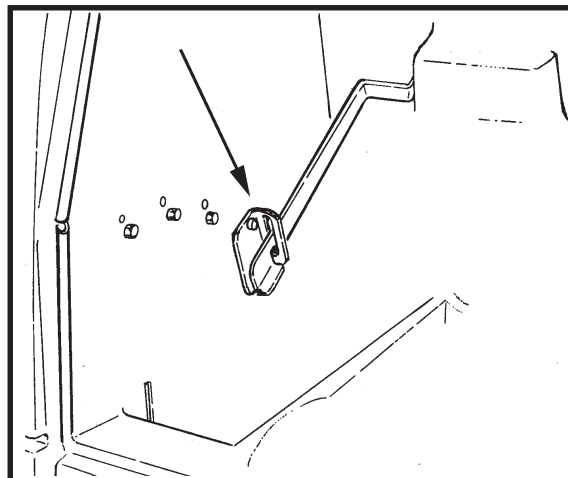

Figure 7
1. To inspect batteries, tip up recovery tank and latch the stop to hold the tank up. See Figure 7.